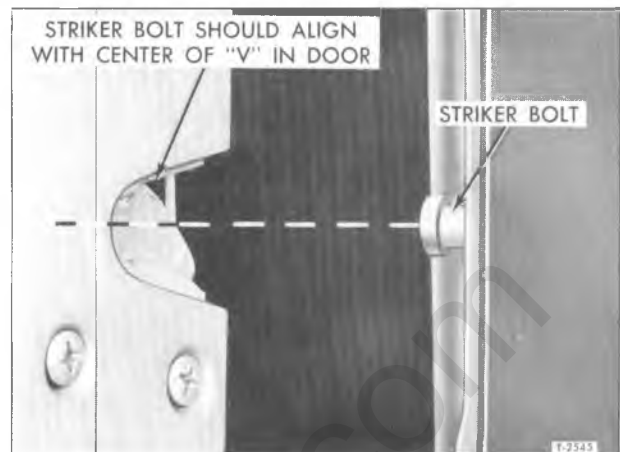

Figure 8—Sight Checking Striker Bolt Alignment
2. If door has been removed and then installed or aligned in opening, the door should not be closed completely until a visual check is made to determine if lock cam in door will engage the striker bolt correctly. Center of striker bolt should be in direct alignment with "V" slot in door. See figure 8. If necessary, reposition striker bolt as directed below under "Striker Bolt Adjustment."
Generally the striker bolt height adjustment can be checked quite accurately by just sighting the center of "V" slot on door with the center of striker bolt as illustrated in figure 8. However, to make a more positive check, perform the following: